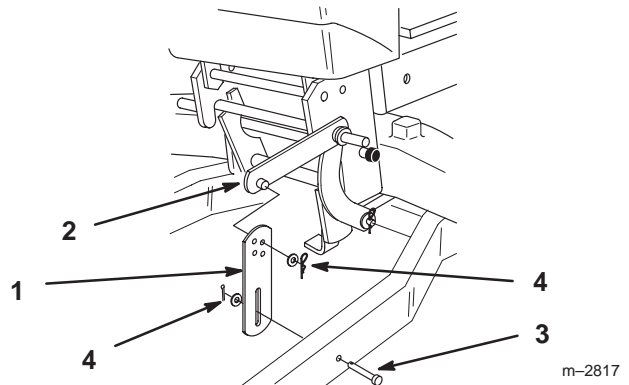

Figure 12
11. Install adjustment link between snowthrower frame, with clevis pin, and lift link arm. Secure with washers and hairpin cotteners (Fig. 12).